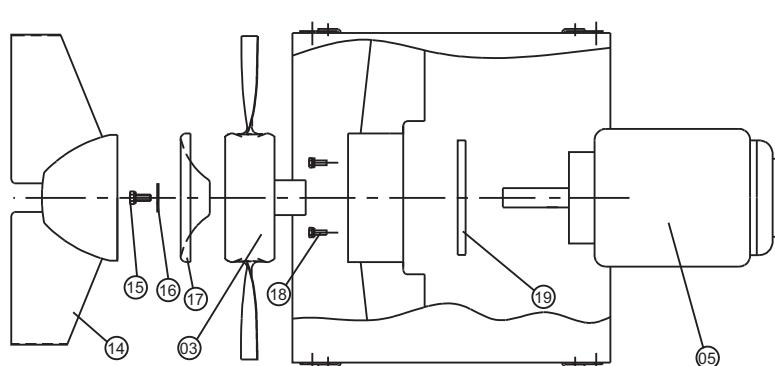

Figure 3. Dismounting and mounting of motor
- 4 **AUC:** Remove hub cover (figure 3, item 17).
- ARC:** Remove screws in guide plates of centre fairing (item 14) and pull out the guide plates.
- 5 Remove centre screw of impeller (figure 3, item 15).
- 6 Remove the centre disc of the hub cover (figure 3, item 16). Remove the hub cover (item 17).
- 8 Remove the four set screws (figure 3, item 18).
- 9 Dismount motor (figure 3, item 05) and motor flange (item 19). Note the motor position before removal.
- 1 After service remount the motor as in (figure 3, item 05) and check the position of the motor flange (item 19). Check the motor shaft is concentric to the fan casing, before tightening the set screws (item 18).
- 3 Mount centre screw (figure 3, item 15), centre disc (item 16) and for AUC hub cover (item 17).
- 4 Type ARC: Mount the centre fairing (figure 3, item 14).